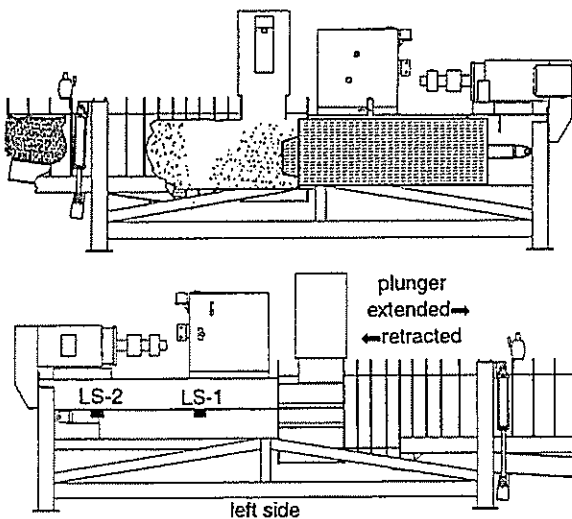

Fig. 5 Plunger fully retracted
5. PLUNGER FULLY RETRACTED When the plunger reaches full retraction (fig. 5) the plunger operates proximity LS-2, which sets RL-5 to unlatch RL-1. This removes the energizing power to SOL-2 and energizes SOL-1 through RL-4, causing the plunger to reverse direction: